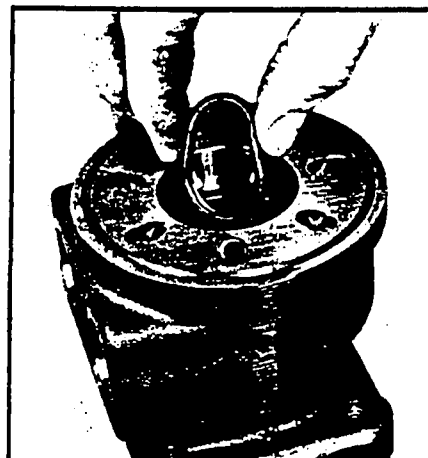

Figure 30
2. If the housing assembly (15) is being reused with original bearings intact, place housing on a clean work surface with the housing wearplate surface up. Apply a small amount of clean grease to a new inner seal (16). Deform the seal between two fingers and insert the seal into the housing seal cavity between the back-up washer (17) and a thrust washer (13). SEE FIGURE 30. The seal must be properly seated and against the back-up washer (17), with the seal lip facing the thrust washer (13). The back-up washer (17) must be seated against the retaining ring (18). Go directly to assembly procedure #8.